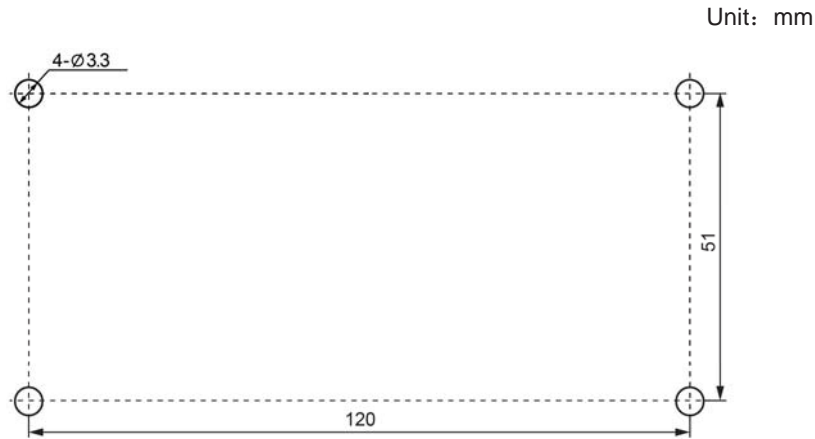

Fig. 3.13 Installation holes for rear cover of electric box
- 2) When the centralized controller is installed in the control cabinet, drill 4 installation holes on the wall of the control cabinet according to the position shown in Figure 3.13.
- 3) In step①, pull out the power cord and communication cable, and pass through different wire holes on the back cover of the electric box respectively, and it is strictly forbidden to pass through the same wire hole.
- 4) In step②, use ST4.2x16 FA screws to fix the rear cover of the electric box and the installation holes on the wall.
- (5) In step ③, pull out the connecting wire between the touch screen and the rear cover of the controller, and put the touch screen in a safe place.
- (6) In step ⑤, connect the communication cable to the G1 and G2 terminals, connect the zero and live wires of the power cord to the L and N terminals; connect the earth wire to the rear cover  of the electric box, and fix it with M4×12 screws.
- (7) In step ⑥, use ST3.9×9.5 PA screws to fix the rear cover of controller to the rear cover of electric box.
- (8) In step ⑦, plug the connecting wires between the touch screen and the rear cover of the controller together.